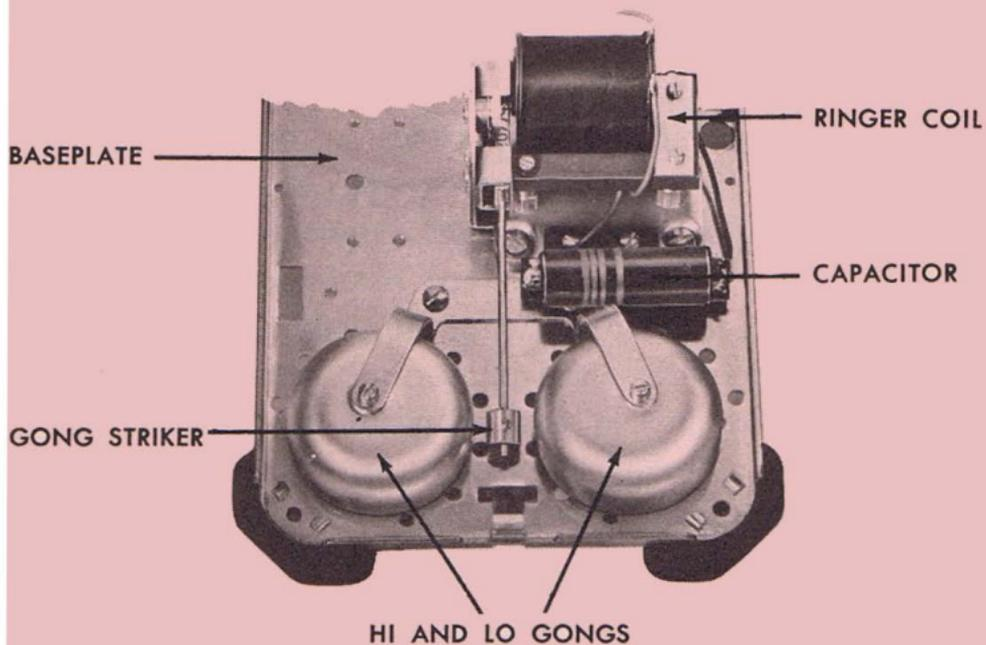

Figure 4. Ringer Assembly.
(2) *Ringer assembly* (fig. 4). The 1543 or any of the 1500 Series Telephone uses a single coil, high-impedance ringer which is advantageous on heavily loaded or noisy lines. The ringing capacitor is mounted on the ringer base, providing easy replacement of the capacitor and ringer as a unit. Ringers are available in four groups—Straight line, Harmonic, Synchronic, Decimonic. Provision is made for including standard Western Electric ringing tubes that are used in superimposed ringing systems. Two large-size gongs are used for full volume signalling. A three-position (high, medium, and low) switch, mounted to the baseplate and protruding through the base of the telephone, is available with straight line ringers to control the volume without distortion or chatter.